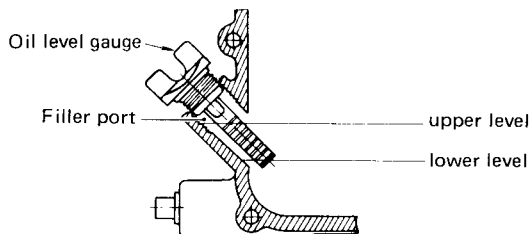

Fig. 1
1. Fill high grade engine oil to the upper level as shown in Fig. 1.
To check oil level, set the engine flat position and insert the oil level gauge into filler port as shown below. Don't screw in gauge. If oil is not enough, refill engine oil to the upper level. (See Fig. 1)
- 2) Install the drain plug. Keeping the engine in horizontal, fill new oil up to the upper level as shown in Fig. 1 and screw the level gauge in.